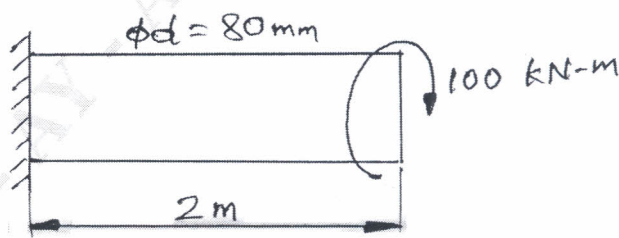

Fig.Q.6(b)
- b. Determine the angle of twist at the free end of a shaft subjected to a torque of 100 kN-m as shown in the Fig.Q.6(b). Given $G = 80 \text{ GPa}$. Also determine the angle of twist at the center. (14 Marks)